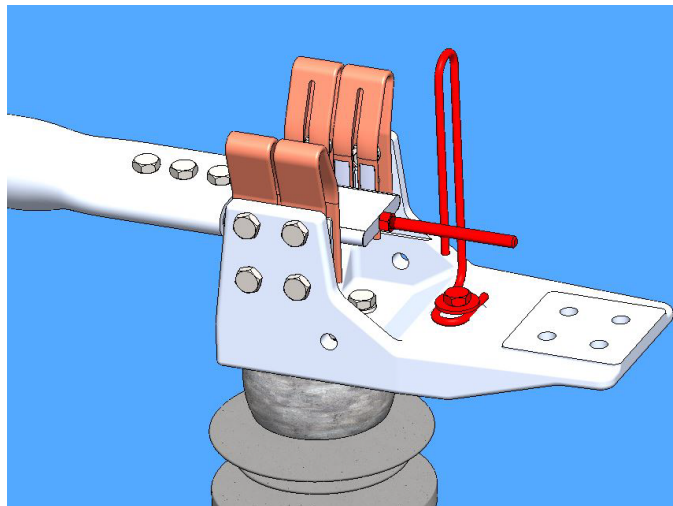

Figure 7: Arcing Horn Attachment
- 3.1.3. Arcing horns should be touching when the switch is fully closed as shown in **Figure 7**. If necessary, the jaw (stationary) arcing horn may be adjusted to achieve proper contact.